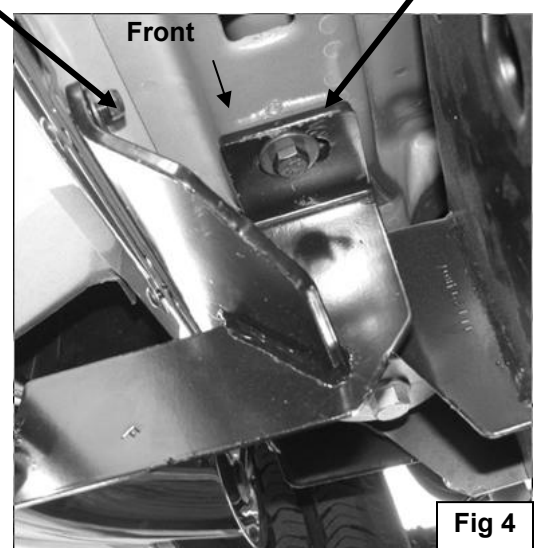

Fig 4
- a. **Vehicles open mounting location:** Insert (1) 10mm Nut Plate into the large square opening in the floor panel. Line up the threaded nut with the small hole in line with the tab on the Bracket, **(Figures 2A & 2B)**. Bolt the Bracket to the Nut Plate with (1) 10mm x 35mm Hex Bolt, (1) 10mm Lock Washer and (1) 10mm Flat Washer. Do not tighten hardware, **(Figure 4)**.
3. Line up the mounting plate on the Bracket with the (2) factory holes in the pinch weld. Bolt the Mounting Bracket to the **back** of the pinch weld using the included (2) 6mm x 25mm Button Head Allen Bolts, (2) 6mm x 18mm Small Flat Washers, (against pinch weld), (2) 6mm x 22mm OD Large Flat Washers, (inside against the bracket) and (2) 6mm Nylon Lock Nuts, **(Figure 4)**. Leave loose at this time.